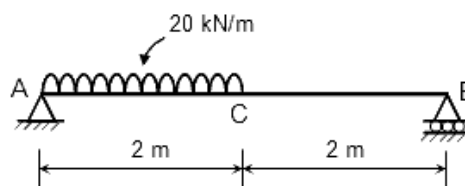

Figure.3
- b) A simply supported beam AB of span 4 m carries a uniformly distributed load as shown in fig. 3. Draw S.F. and B.M. diagrams for the beam. Find magnitude of maximum B.M. **6 Marks**